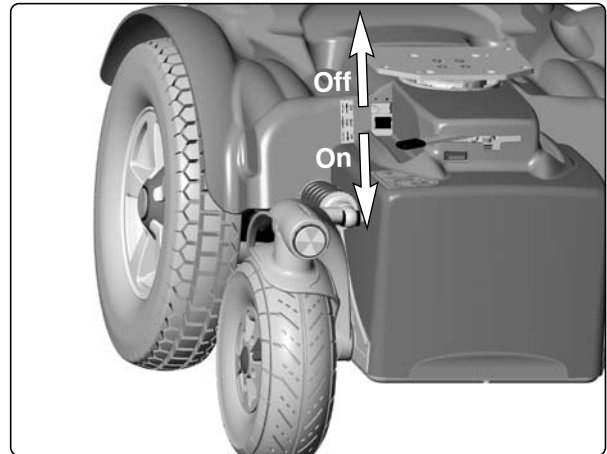

Fig. 46. Circuit breaker/Battery isolator.
2. Put the circuit breaker in the “OFF” position; see figure 46.